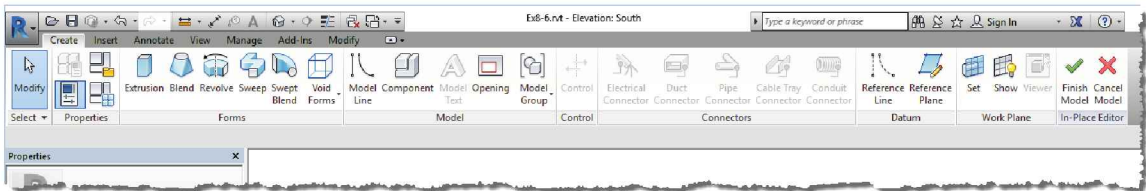

FIGURE 8-6.14
You are now in a mode where you draw the *Atrium Roof*. Notice that the *Architecture* tab on the *Ribbon* has changed (Figure 8-6.14) which has all the tools available to create a *Family*. You are continuously in the *Family* edit mode until you select *Green Check Mark* (to finish the roof) or the *Red X* (to cancel) from the *Ribbon*.
40. Select **Extrusion** from the *Ribbon* (Figure 8-6.14).